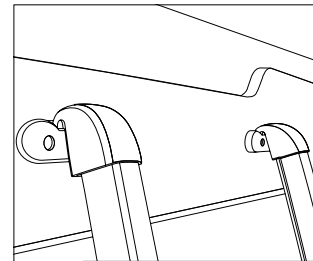

Fig. 1
- To access the upper beds, hook the ladder (Fig. 1) to supports **A** located on the front of the area you want to access (Fig. 2)